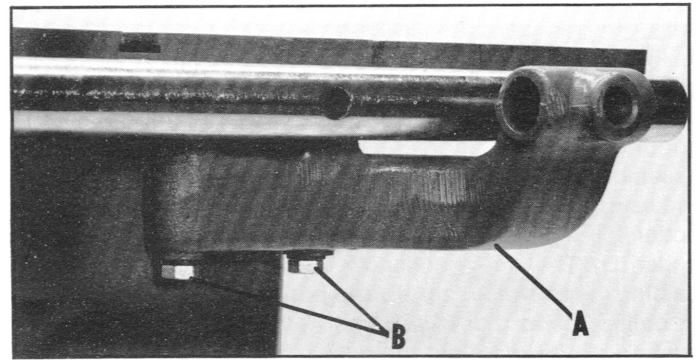

Fig. 13
2. Assemble the bracket (A) Fig. 13 to the table (using the two holes mentioned in STEP 1) with the two screws and washers (B).